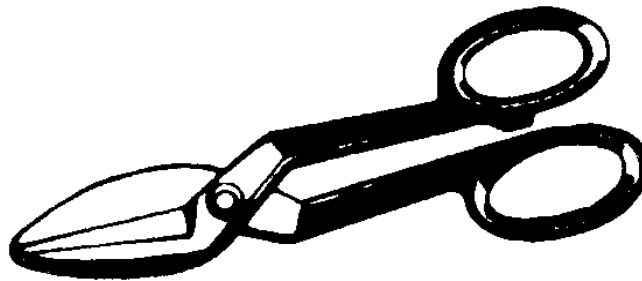

Figure 6, Straight snips.
- **Straight snips (See Figure 6):** Straight snips are designed to cut straight or long curved lines. They are available with right hand cut for right-handed people, and left hand cut for left-handed people. Straight snips have a cutting capacity of 20-gauge mild steel (fig 14-6).